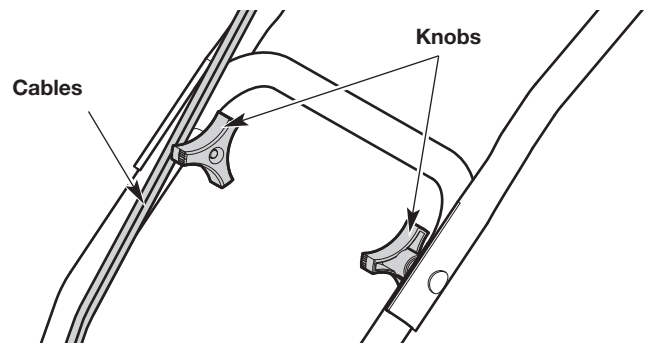

Fig. 4
2. Loosen the knobs (Fig. 4).
**NOTE:** Take care not to pinch the cables when positioning the handlebar (Fig. 4).